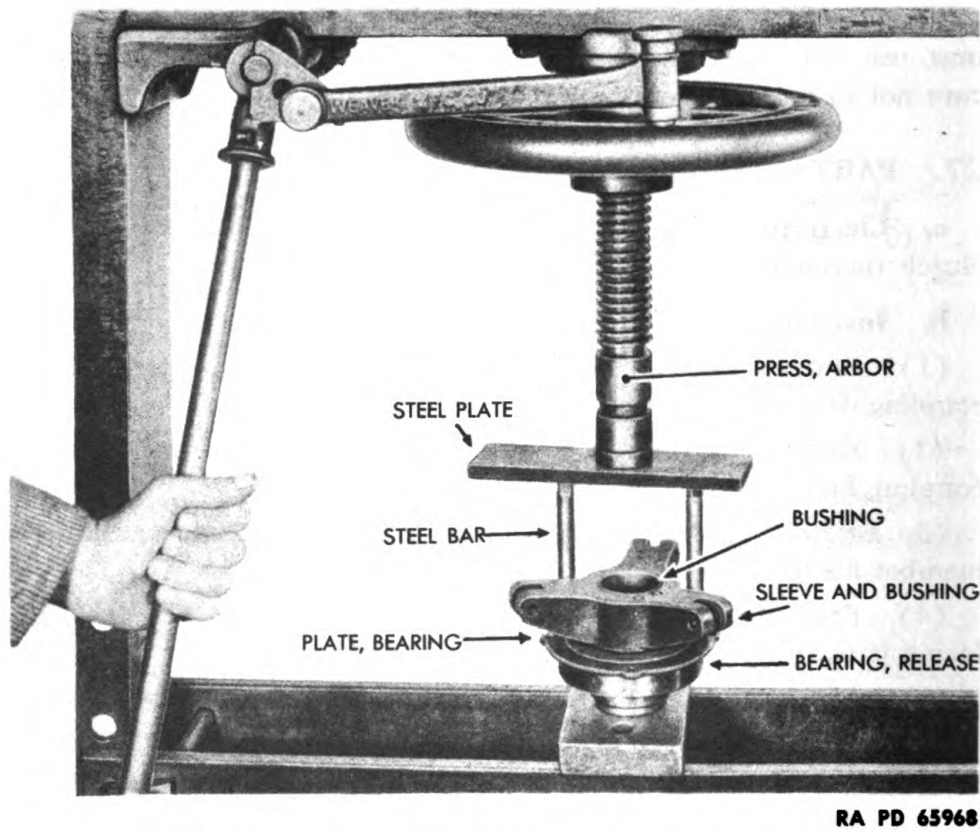

Figure 25 – Pressing Release Bearing from Sleeve and Bushing
(13) REMOVE RELEASE BEARING FROM SLEEVE AND BUSHING (fig. 25).
(14) REMOVE BUSHINGS FROM SLEEVE IF THE BUSHINGS ARE TO BE REPLACED (fig. 25).
Install release bearing plate over sleeve and bushing. Position bearing on sleeve, the reverse of figure 25. Use an arbor press to press release bearing on sleeve and bushing.